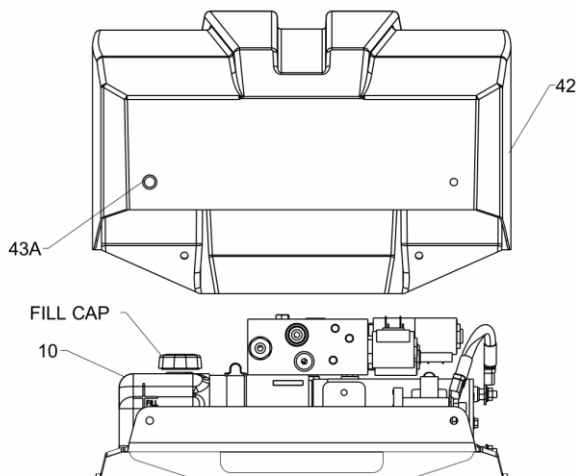

Figure 14. Hydraulic Fluid Fill Location G10759
3. Locate and remove the Fill Cap from the Hydraulic Power Unit (10) reservoir shown in Figure 14.